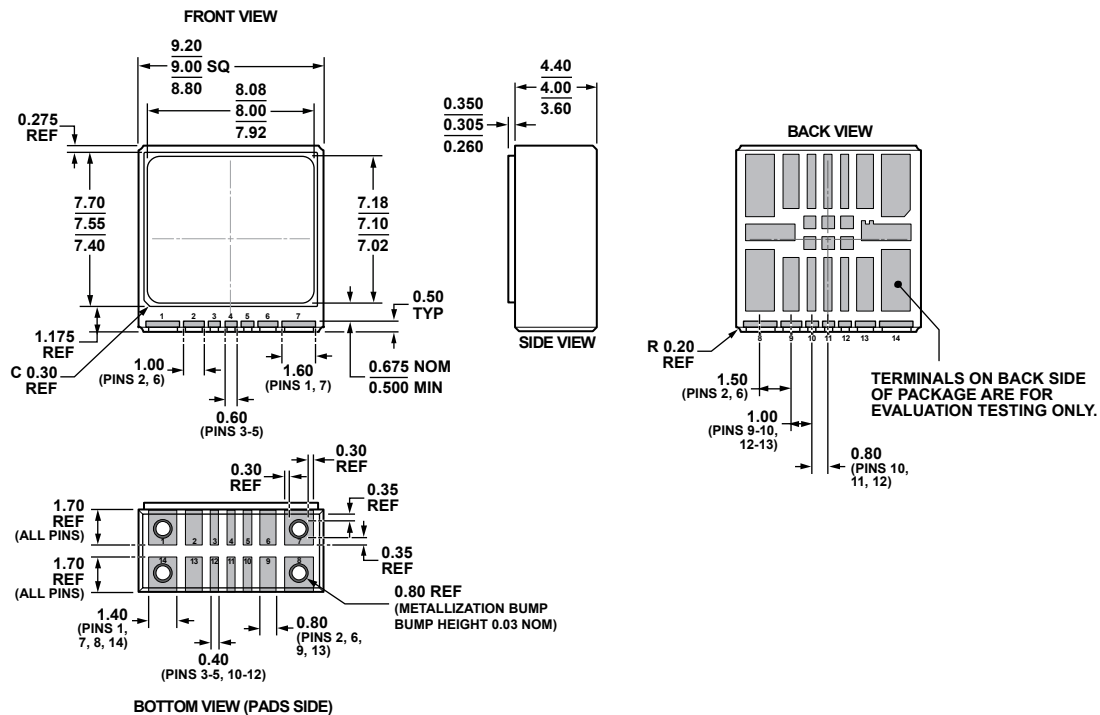

Figure 38. 14-Terminal Ceramic Leadless Chip Carrier, Vertical Form [LCC\_V]
1. THE PACKAGE HAS TERMINALS ON TWO FACES. HOWEVER, THE TERMINALS ON THE BACK ARE FOR INTERNAL EVALUATION ONLY AND SHOULD NOT BE USED IN THE END APPLICATION. THE TERMINALS ON THE BOTTOM OF THE PACKAGE INCORPORATE METALLIZATION BUMPS THAT ENSURE A MINIMUM SOLDER THICKNESS FOR IMPROVED SOLDER JOINT RELIABILITY. THESE BUMPS ARE NOT PRESENT ON THE BACK TERMINALS AND, THEREFORE, POOR SOLDER JOINT RELIABILITY CAN BE ENCOUNTERED IF THE BACK TERMINALS ARE USED IN THE END APPLICATION. FOR THE OUTLINE DIMENSIONS OF THIS PACKAGE, SEE FIGURE 38.